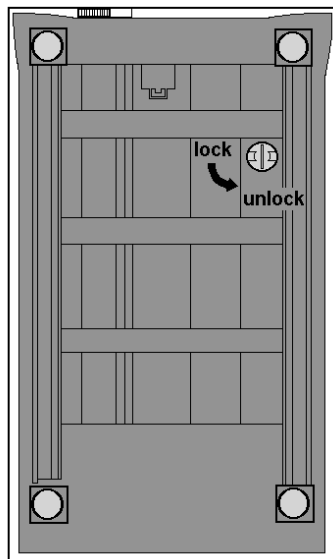

Figure 2: Unlocking the transport locks
3. The second lock is on the underside of the scanner. Turn the knob a quarter turn anti-clockwise to unlock (Figure 2).